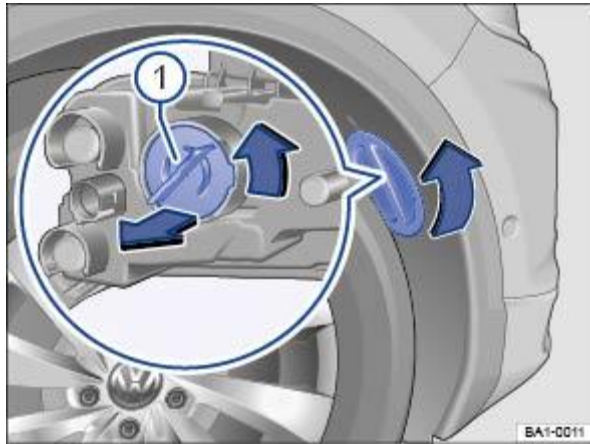

Fig. 168 In the front right wheel housing liner: changing a turn signal bulb.
② ① Observe and follow the instructions in the checklist ⇒ Checklist Information on changing bulbs .
② ② Turn the steering so that the wheel on the affected side of the vehicle is pointing to the middle of the vehicle. If necessary, start the engine to do this. Then stop the engine again and remove the vehicle key from the ignition lock.
② ③ Turn the cover in the wheel housing liner in the direction of the arrow and remove it ⇒ Fig. 168 .
② ④ Release the connector ⇒ Fig. 168 ① and detach it.
② ⑤ Turn the bulb holder ⇒ Fig. 168 ② anti-clockwise (arrow) as far as it will go and pull it out to the rear along with the bulb.
② ⑥ Replace the defective bulb with a new bulb of the same type.
② ⑦ Insert the bulb holder into the headlight and turn it clockwise as far as it will go.
② ⑧ Fit the connector ⇒ Fig. 168 ① on the bulb holder ⇒ Fig. 168 ②. The connector should click into place.
② ⑨ Fit the cover in the wheel housing liner ⇒ Fig. 168 and lock it in position.